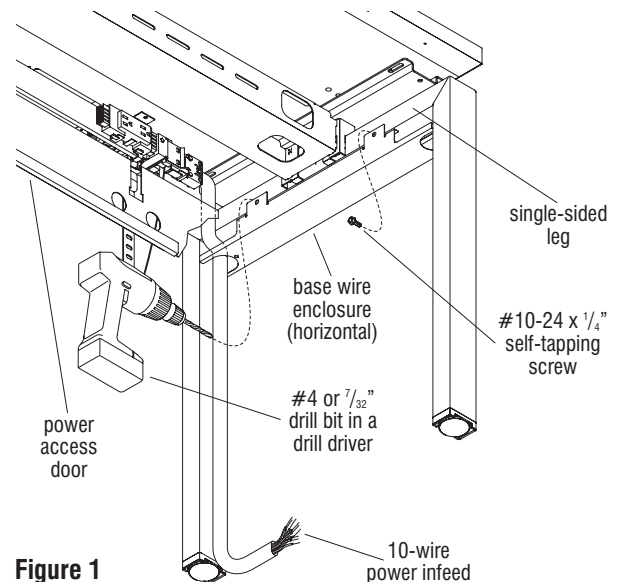

Figure 1
(or other type of infeed) to fit close to the vertical member of the leg. Place the power infeed into the U-shaped opening at the appropriate end of the wire enclosure (horizontal) to be installed. Position the wire enclosure between the leg uprights and move it up into position, adjusting as needed, keeping the power infeed inside the U-shaped opening, while moving the unit up to align the wire enclosure mounting holes in the inner tabs with the pre-drilled holes in the leg. Secure the enclosure to the leg underside using one #10-24 x $\frac{1}{4}$ " screw per tab. Take care to not over tighten (Figure 1).
5. Hold the base wire enclosure (horizontal) tight under the leg. Using the mounting tabs as a template, use a #4 or $\frac{7}{32}$ " drill bit in a drill driver, to carefully bore a hole at the center of each upper tab location. Secure the enclosure to the leg using a #10-24 x $\frac{1}{4}$ " screw in each upper tab (Figure 1).